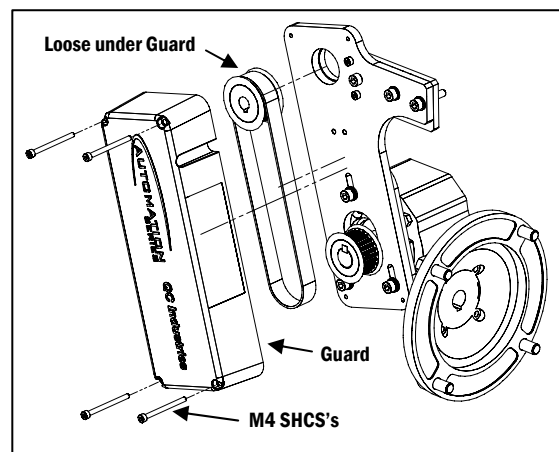

Figure 2
- a. Remove the Guard in the Drive package by removing the four M4 Socket Head Cap Screws using an Allen Wrench (**Figure 2**). The top Sprocket and Belt are loose under the Guard.